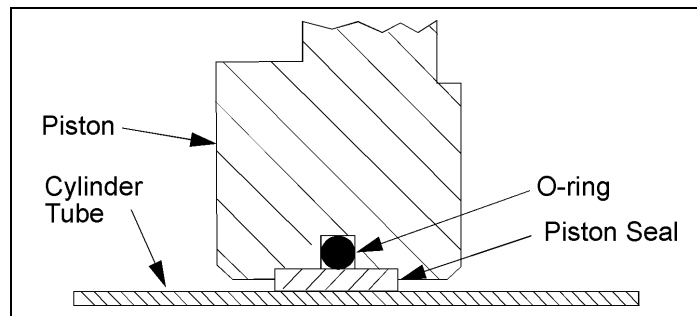

Figure 2 – Piston Seal Installation
13. Slide the medium size lubricated O-ring over the piston until it fits in the groove. See Figure 2.
14. Slide the lubricated piston seal over the piston without stretching it any more than necessary. The seal should fit into the groove over the O-ring. See Figure 2.